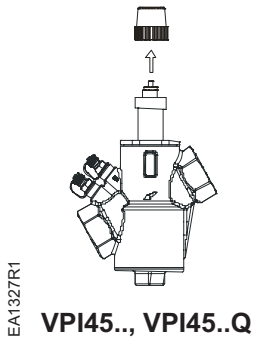

Figure 3.
- If you are attaching the actuator to a new valve, remove the protective plastic cap from the valve stem. See Figure 3.